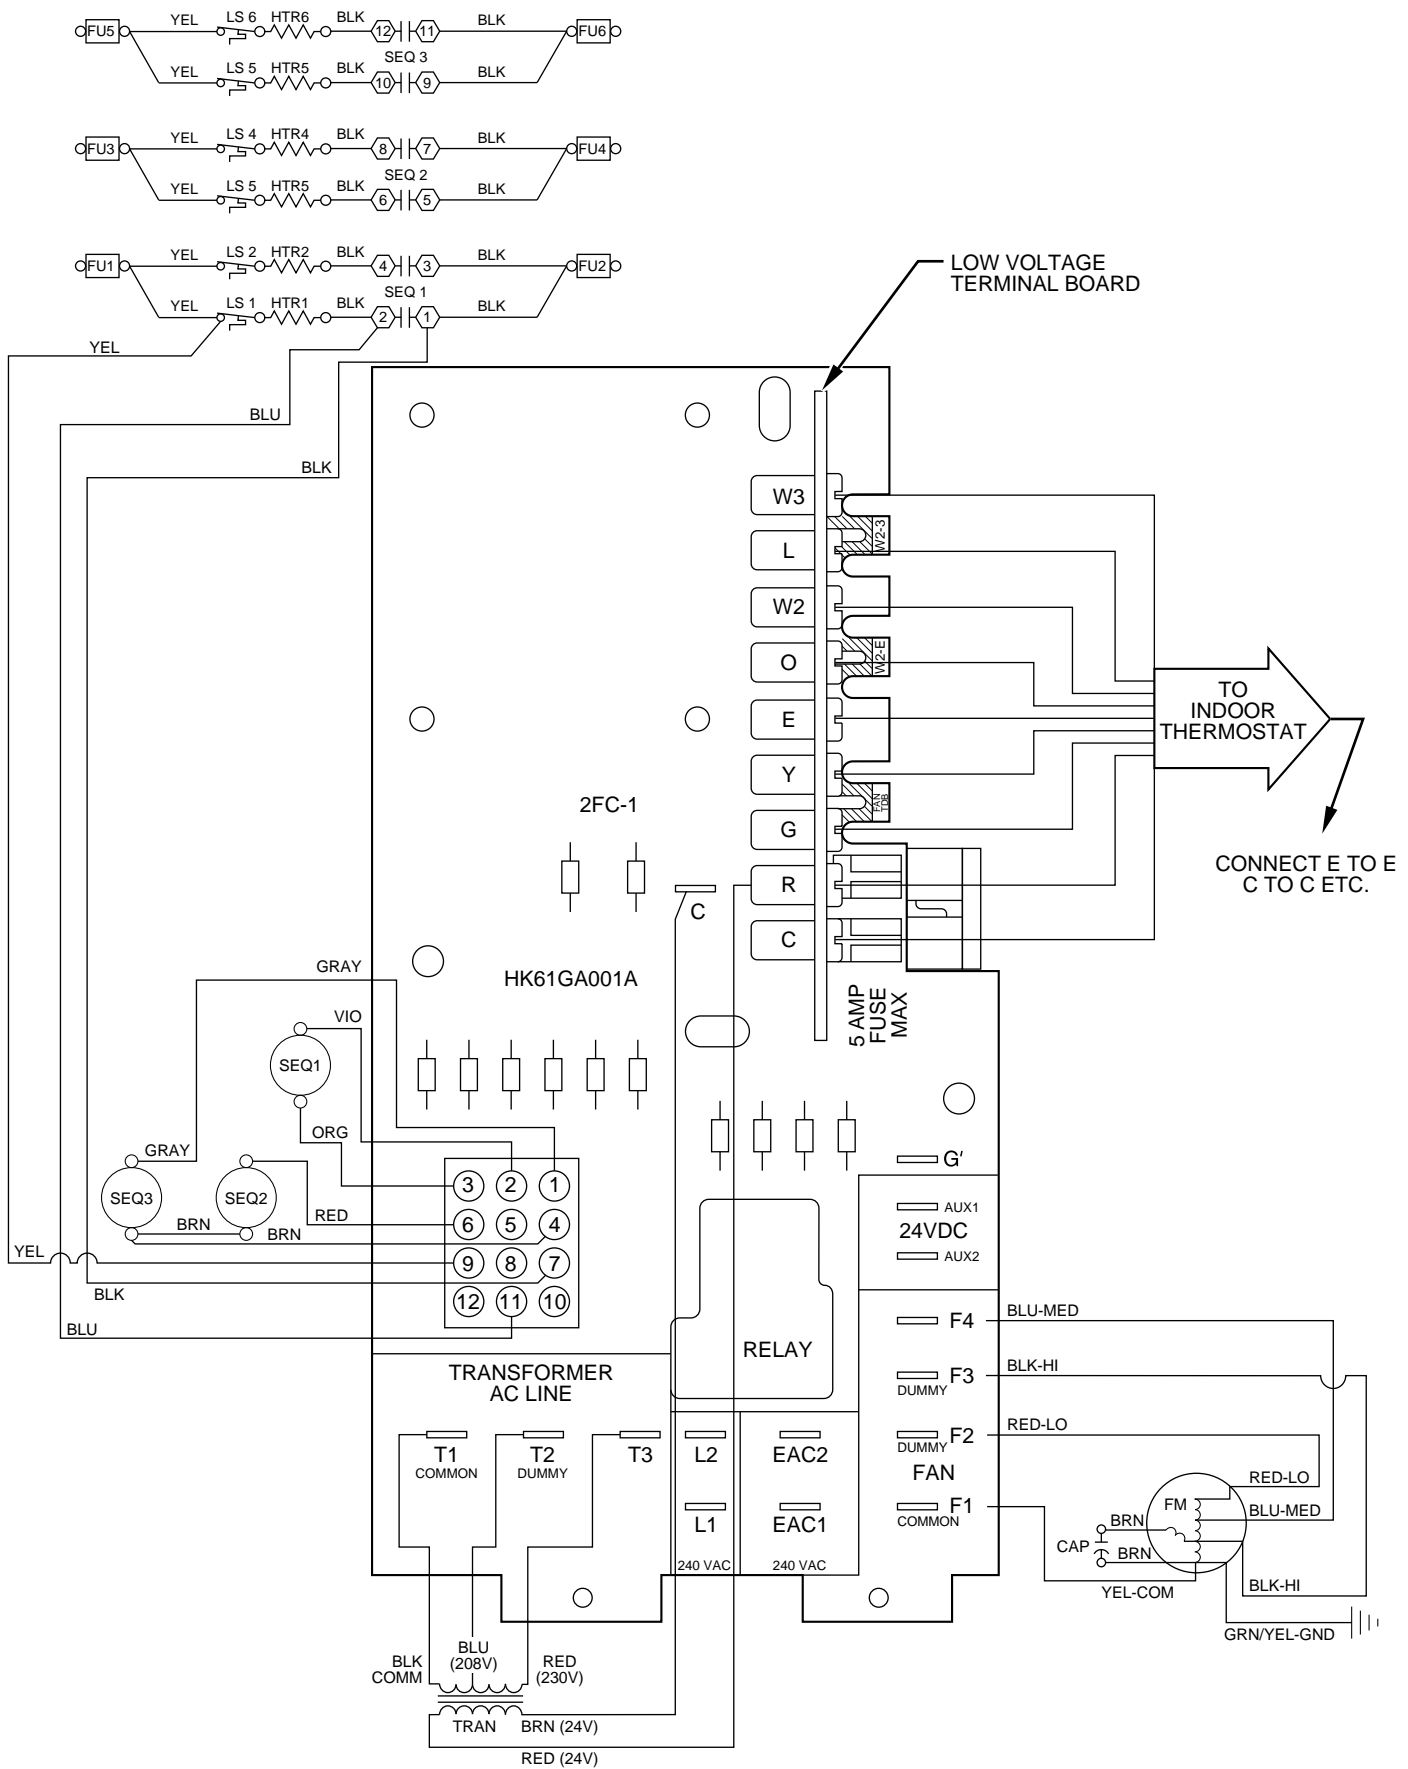

Fig. 7—10kw to 20kw Circuits
The low-voltage terminal board connects the indoor thermostat to the outdoor unit as shown in Fig. 7. The terminals are listed as follows along with their functional control.
The proper wiring of the transformer on the HK61GA001 board is illustrated in Fig. 7. Note that T1, T2, and T3 are wired to the primary or high side of the transformer. The blue wire is connected to T3 for 208-v applications. The red wire is connected to T3 for 230-v applications. Units are factory wired at 230v. The T2 terminal is a dummy.
1. Wiring--The fan connects to F1, F2, F3, and F4 as shown in Fig. 7. Note that F2 and F3 are dummy terminals. The desired fan speed is connected to F4 and the common is connected to F1. Units are factory wired at medium speed.